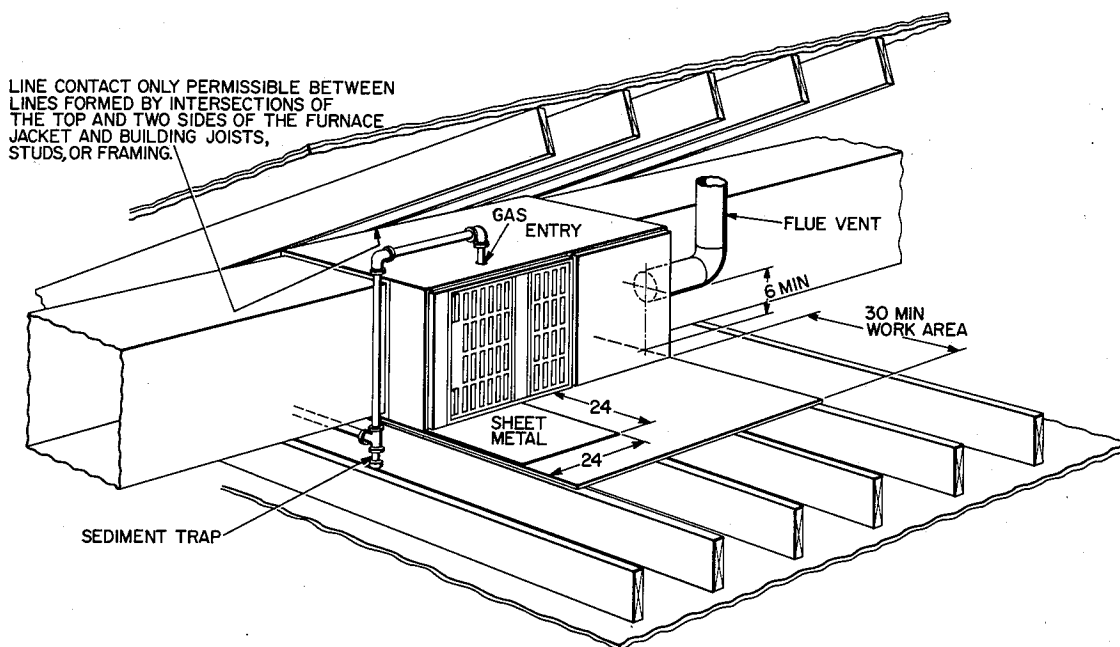

Fig. 7—Typical Attic Installation
2. Connect gas supply pipe; see Fig. 7 for typical piping entry.
4. Install 24- x 24-in. sheet metal shield on platform in front of louvered control panel as shown in Fig. 7.